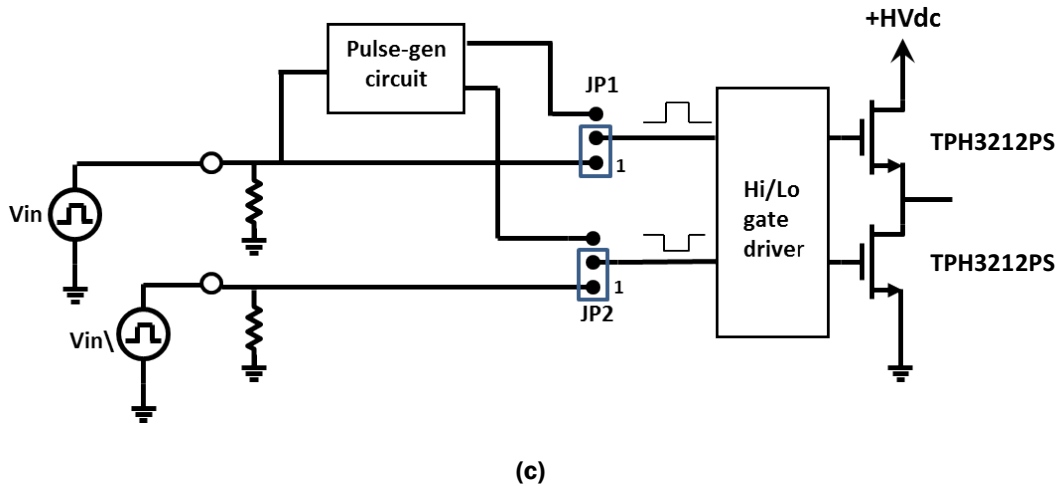

Figure 4. Input configurations
Figure 4 shows possible configurations for the gate-drive signals. In Figure 4(a), a single input from an external signal source is used together with the on-board pulse generation circuit. J4 is used, J6 is left open circuit. Jumpers JP1 and JP2 are in the top position, as shown. If the high-side transistor is to be the active switch (e.g. buck mode), then the duty cycle of the input source should simply be set to the desired duty cycle (D). If the low-side transistor is to be the active switch (e.g. boost mode) the duty cycle of the input source should be set to (1-D), where D is the desired duty cycle of the low-side switch. This configuration results in synchronous rectification. If it is desired to let the device carrying the freewheeling current act as a diode, then the appropriate jumper should be placed so that the pull-down resistor is connected to the driver. Figure 4(b) shows a buck-mode
configuration where the low-side device is not enhanced. Finally, Figure 4(c) shows use of two external signal sources as inputs to the gate driver.